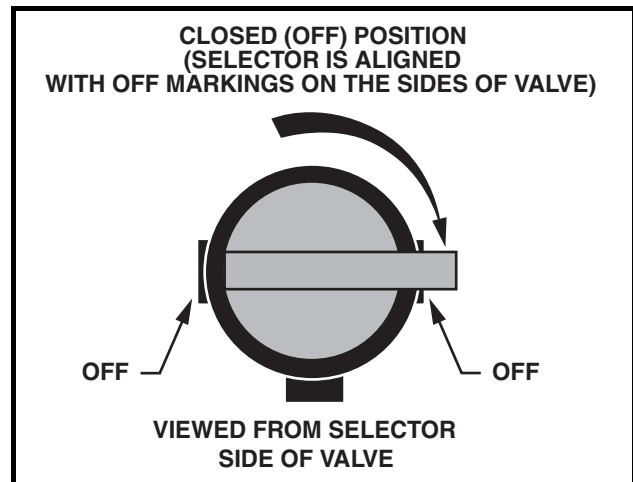

Figure 3-3 Fuel Shut-Off Valve – Closed Position
- Turn fuel shut-off valve to closed (OFF) position (Figure 3-3, Page 3-3).
- 2.1. Place the Forward/Reverse handle in the NEUTRAL position and the neutral lockout cam in the MAINTENANCE position. Turn the fuel shut-off valve to the closed (OFF) position (**Figure 3-3**) and run the engine until fuel remaining in the carburetor and fuel lines is depleted and the engine stalls. Return the neutral lockout cam to the OPERATE position.